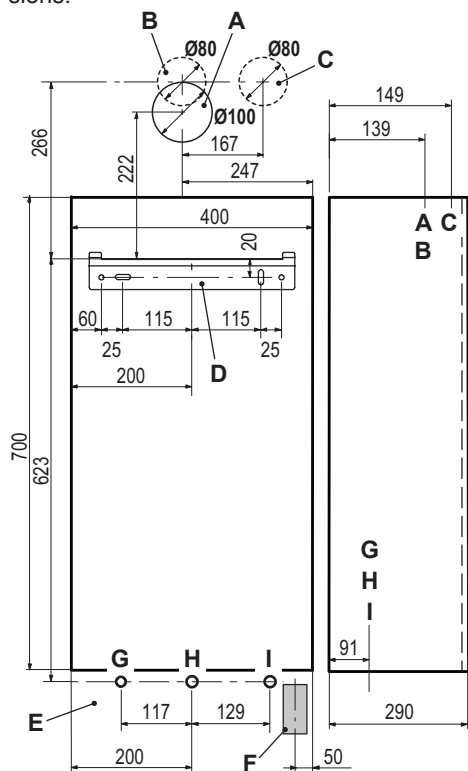

Fig. 6.2
- Fix the C.H. valves "K" to position "G" and "I" (Fig. 6.2) using the ¾" gaskets.
- Fix the gas cock "L" to position "H" (Fig. 6.2), using the ¾" gasket.